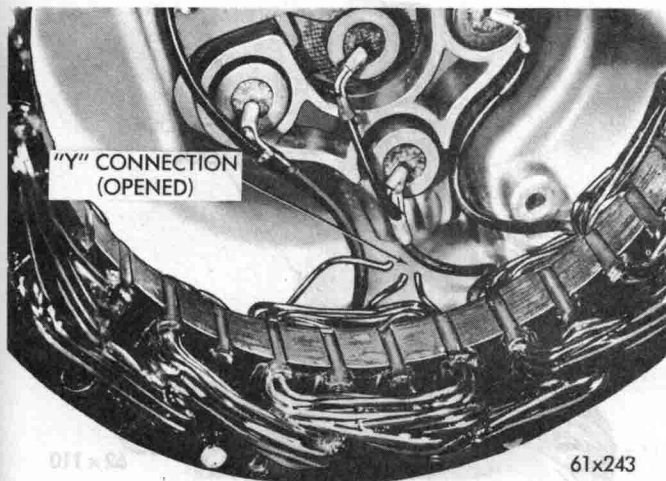

Fig. 37—"Y" Connector Opened and Stator Leads Separated
(a) Separate the three (3) stator leads at the "Y" connection. (See Fig. 37.)